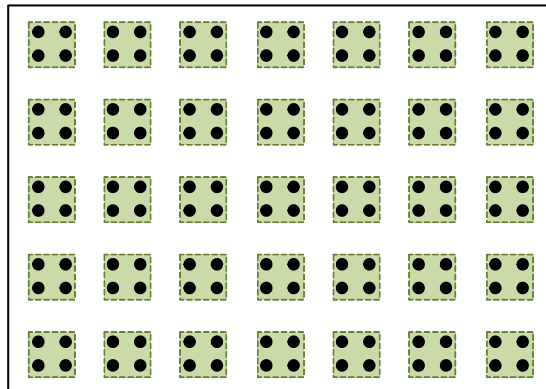

Figure 1: Quad Board
- Locate the Quad Board (Figure 1). The Quad Board will be used to construct circuits throughout the semester. Each of the 4 jacks on each “quad” are the same point electrically. You will use the connections to plug in circuit elements, the voltage source, the DMM and other devices in later practical exercises.